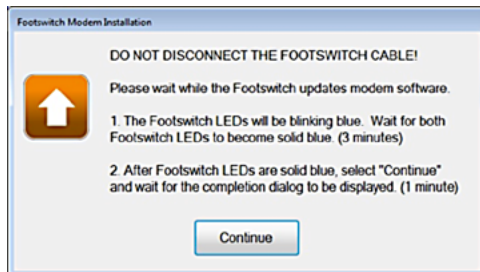

Figure 4-10 Footswitch Modem Installation Dialog
- 2.2.22 Select Yes in the confirmation dialog and follow the instruction in the Footswitch Modem Installation dialog shown in Figure 4-10 which takes around 4 minutes.